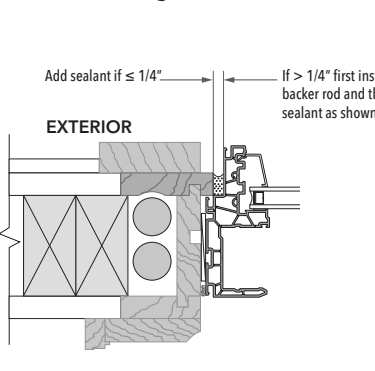

Figure 5
- NOTE: For full frame replacement in brick or siding, where the wall is designed to manage water do not leave gaps or weeps in the interior sealant. For pocket replacement, if weep holes are not present in the sill adapter and the existing sill slopes to the exterior, leave weep gaps in the sealant (Figure 5).